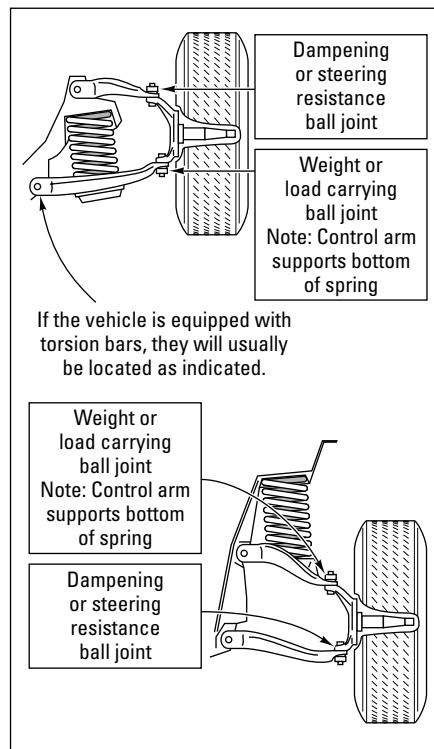

Figure 16-10: Bushings and ball joints on front coil springs.
➤ **Coil springs** look like old-fashioned bed springs. They're usually found at the front of the car, although they can be at both the front and the rear. At the front end, coil springs also help cushion the bumps, vibrations, and steering movements. Front coil springs can sit on either the upper or lower **control arms**. They're cushioned by **ball joints** (see Figure 16-10).
At the rear, they're often suspended between control arms that have rubber bushings. Figures 16-10, and 16-16 through 16-18 show the location of coil springs on a variety of suspension systems. If the coil springs are making noise, you may be able to lube them with spray-on grease at the points where they connect at the top and bottom. However, I recommend that you check with the service department at your dealership before undertaking the job yourself.
- ✔ **Torsion bars** are used mainly in SUVs and trucks. They're located at the front of the vehicle, connected at one end to a control arm. What they connect to at the other end differs from one vehicle to another. (Figures 16-10 and 16-11 show some configurations.) Torsion bars twist to accommodate differences in the load that the vehicle may be carrying, which allows the front wheels to move up and down freely. Think of torsion bars as coil springs that didn't get wound into a spiral.